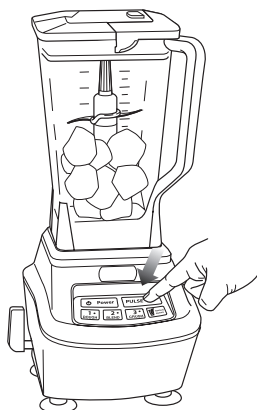

Fig. 6
- 9** Select the speed that best suits your needs. (Fig. 6)